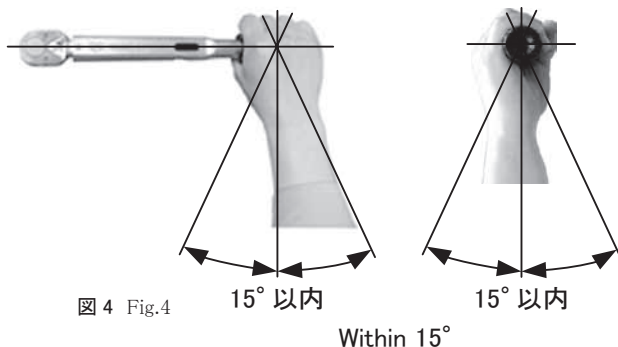

図 4 Fig.4
上下左右とも $\pm 15^\circ$ 以内にする。(図4)
- The loading direction must be at a right angle to the torque wrench. The tolerance is plus/minus 15 degrees of horizontal or vertical deviation. See Fig. 4.